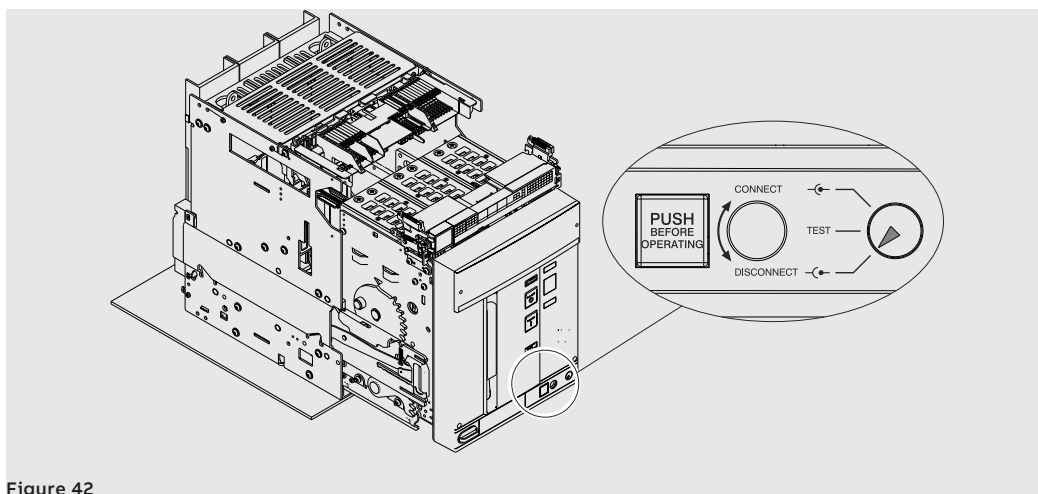

Figure 42
6. Make sure that the signalling device indicates the **DISCONNECT** position. See Figure 42.